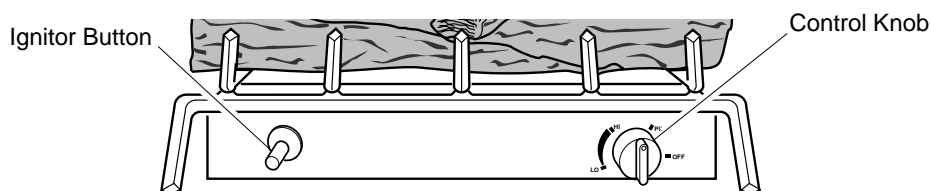

Figure 21 - Control Knob and Ignitor Button Location
4. Wait five (5) minutes to clear out any gas. Then smell for gas, including near the floor. If you smell gas, **STOP!** Follow "B" in the safety information in column 1. If you don't smell gas, go to the next step.
5. Slightly depress and turn control knob counterclockwise  to the **PILOT** position. Keep control knob pressed in for five (5) seconds (see Figure 21).